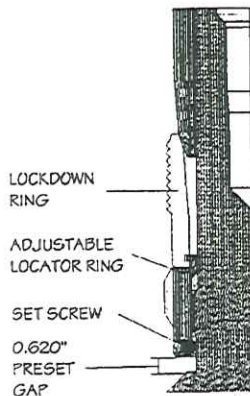
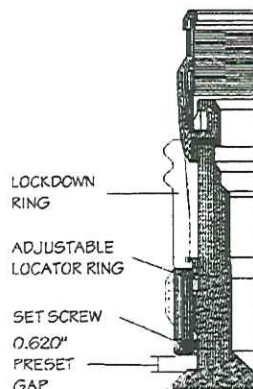

Figure 3a. Adjustable locator ring factory preset gap
Figure 3b. Adjustable locator ring factory preset gap
7. Refer to **Figure 3a** and **Figure 3b**. Measure the gap between the adjustable locator ring and the shoulder of the main body, just below the adjustable locator ring. Use the adjustable parallels and the digital caliper to verify the factory preset gap is 0.620" (± 0.005 ").